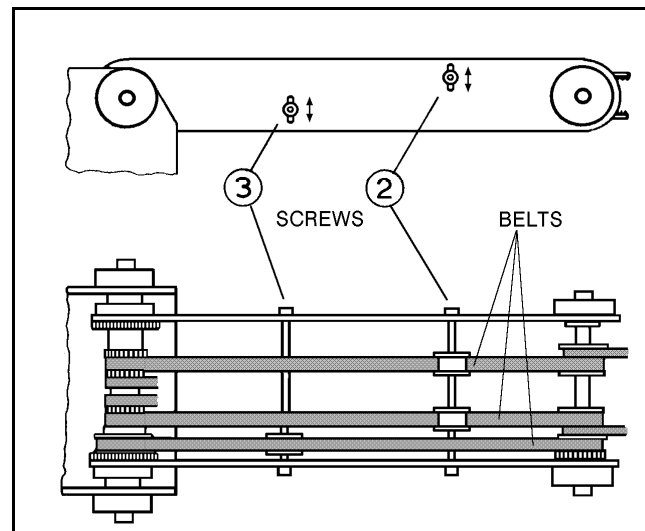

Figure 17: Tightening Belts in Upper Arm
- Figure 17 shows how to tighten the belts in the upper arm which move the wrist axes (2), and the belt which moves the elbow axis (3).